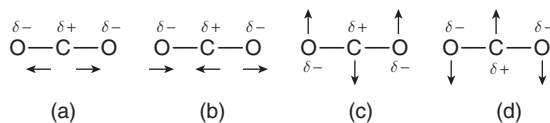

Figure 3 Stretching vibrations of CO_2 : (a) Symmetric stretching; (b) asymmetric stretching (c) and (d) bending of two degenerate modes at right angles.
3. **Infrared region:** In this region, dipole is produced by vibration rather than rotation. For example, in a triatomic molecule of CO_2 , the three atoms are arranged linearly. The carbon atom carries a small positive charge and each oxygen atom carries a small negative charge. During vibration of the molecule, the two C–O bonds are stretched and compressed alternatively. If the two bonds are simultaneously stretched followed by simultaneous compression, the vibrations are termed symmetric stretching vibrations. Dipole moment remains zero through such vibrations [Figure 3(a)].
If, however, one C—O bond is stretched while the other one is compressed or vice versa, the vibration is called asymmetric stretching vibration and periodic alteration occurs [Figure 3(b)], as shown in the figure. During the symmetric and asymmetric stretching vibrations, the center of gravity does not move. The two C—O bonds can also undergo bending in two modes, which are degenerate and at right angles [Figures 3(c) and (d)]. As a molecule vibrates, if there is a change in its dipole moment then this induces an electric field that interacts with the infrared radiation. If there is a match in frequency of the radiation and the natural vibration of the molecule absorption of electromagnetic radiation takes place. These vibrations give rise to spectrum in the infrared region.